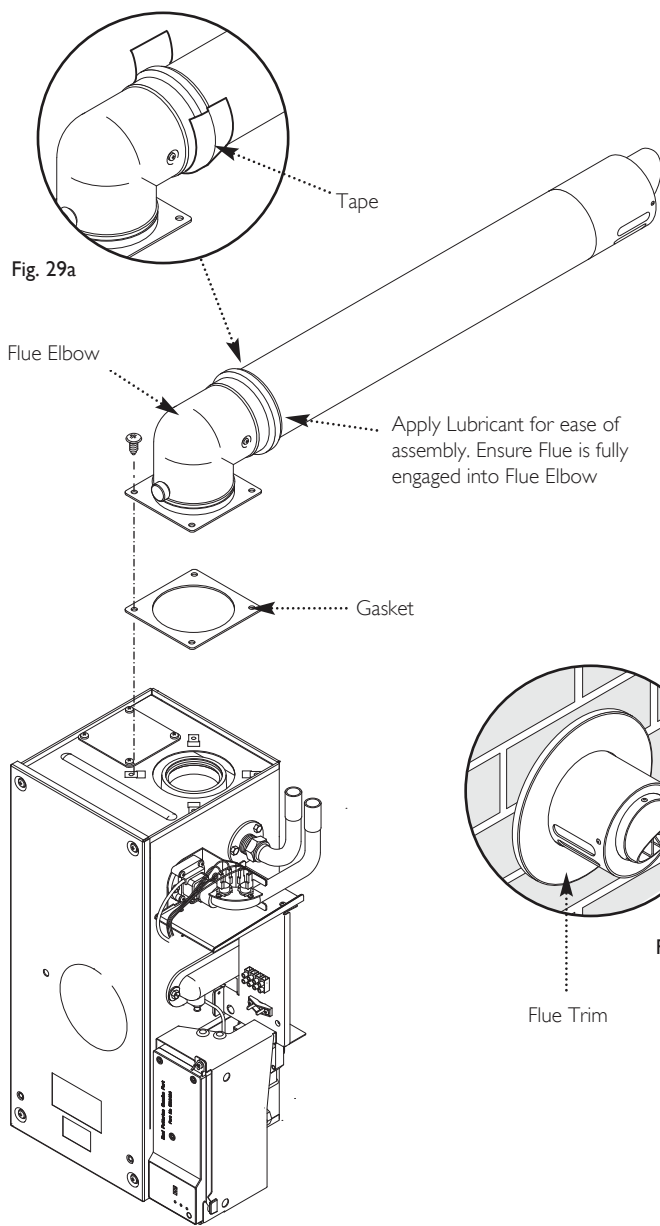

Fig. 29
7. Engage the flue into the flue elbow using soap solution to ease the engagement ensuring the flue is assembled as shown (Fig. 29). Take the tape supplied in the kit and wrap around the joint between the flue and the elbow (Fig. 29a).